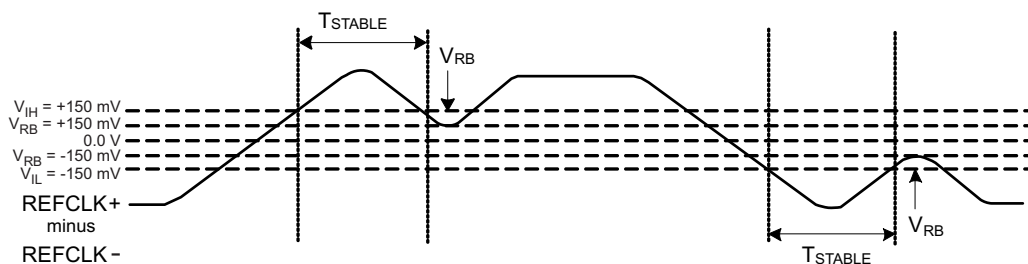

Figure 5. HCSL Ring Back Margin and Timing
- (4) T_{STABLE} is the time the differential clock must maintain a minimum ± 150 mV differential voltage after rising/falling edges before it is allowed to droop back into the $V_{RB} \pm 100$ mV differential range. See Figure 5.
- (5) $t_{Rfin} = t_{Ffin} \geq 0.6$ V/ns.
- (6) Measured from -150 mV to +150 mV on the differential waveform. The signal must be monotonic through the measurement region for rise and fall time. The 300 mV measurement window is centered on the differential zero crossing. Slow is 0.53V/ns, medium is 1.05V/ns, and fast is 2.1V/ns. The PCIe CEM spec. has a window of 0.6V/ns to 4V/ns.
- (7) Assumes input duty cycle = 50%.
- (8) Skew measured between identical output types with identical loads, identical output power supplies, and identical edge rate settings.
- (9) Parameter depends significantly on power supply design and supply voltage rise time.